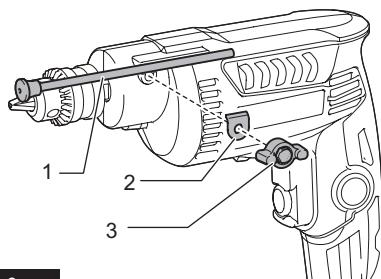

Fig.6
► Fig.6: 1. Depth gauge 2. Washer 3. Clamp screw